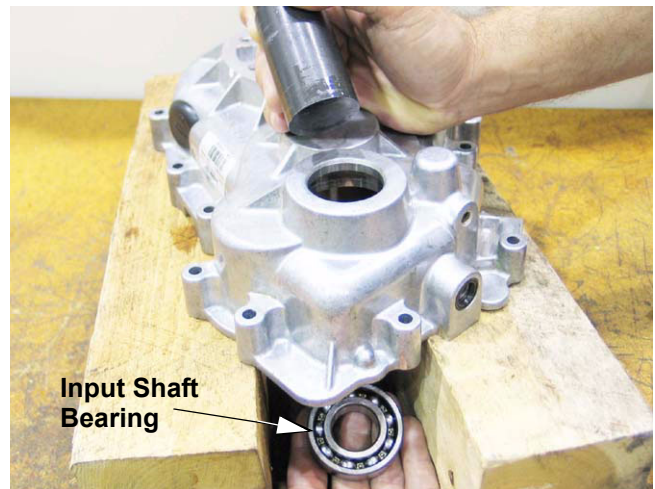

Figure 12.14
12.14. The input shaft bearing can be driven out of the housing. See Figure 12.14.